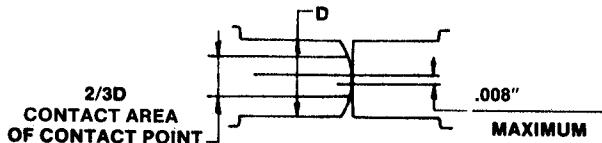

FIGURE 6.2
(1) Check position and offset of both points. See Figure 6.2.